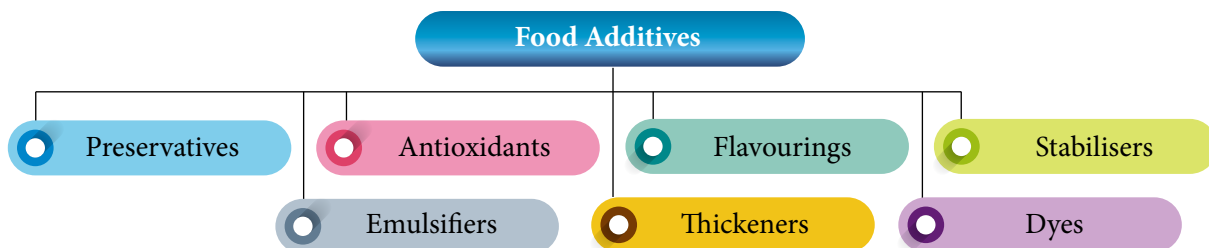

Figure 5.11 Types of food additives
- Figure 5.11 lists the types of food additives, and Table 5.6 describes their functions and examples.